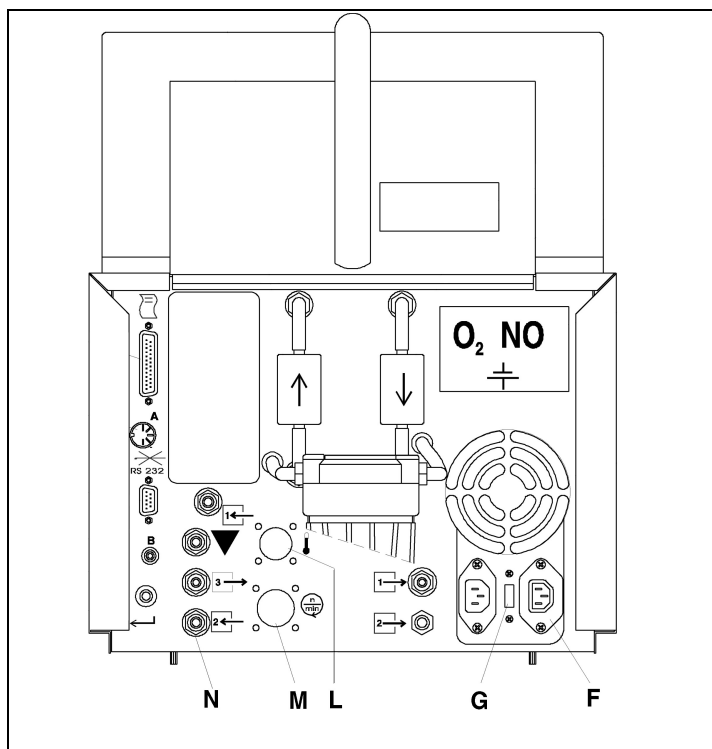

Figure 1-10: Back Panel
2. Plug the power cord into the AC power source (F) on the back panel of the analyzer. Plug the other end into a standard 120VAC grounded electrical outlet. See Figure 1-10.
- ✓ Make sure the voltage switch (G), at the main input receptacle of the analyzer, is set to the correct voltage before connecting the analyzer to a power source.